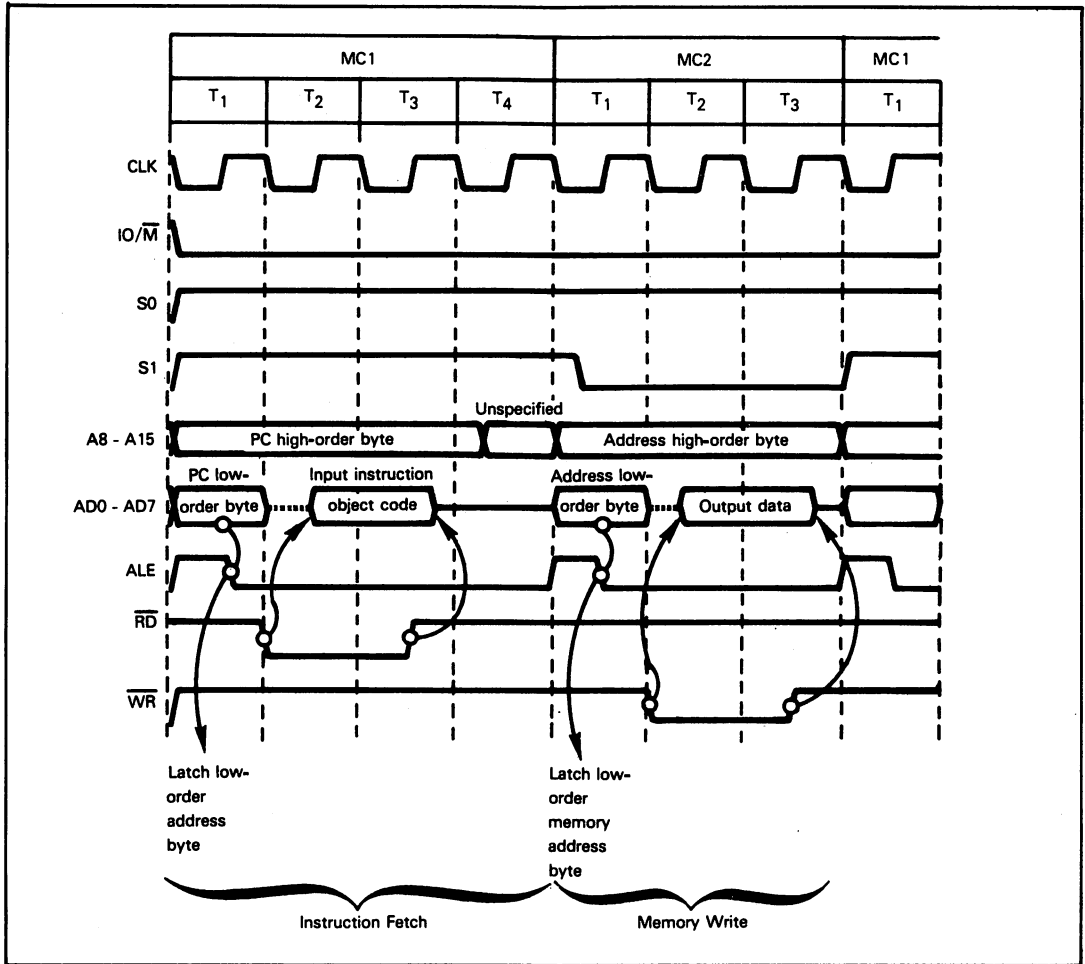
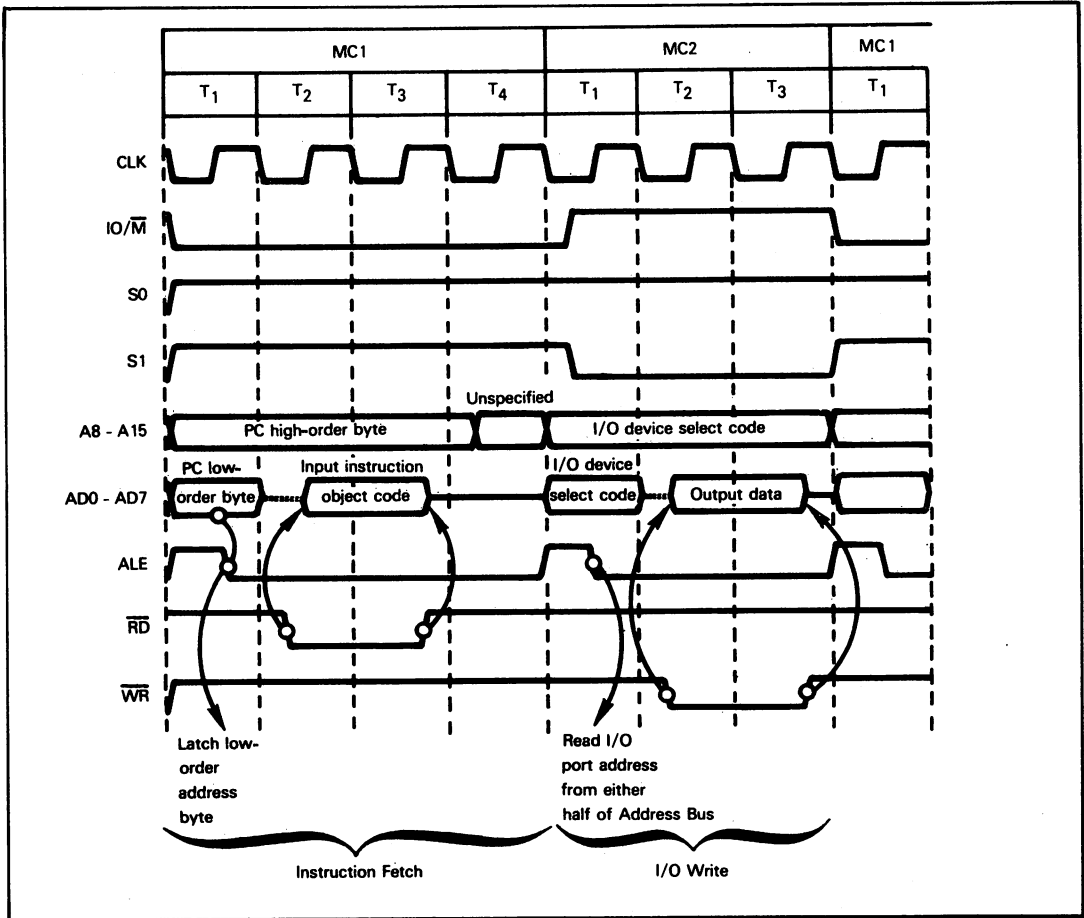

Figure 5-8. A Memory Write Machine Cycle Following an Instruction Fetch
Figure 5-9. An I/O Write Machine Cycle Following an Instruction Fetch
**Memory write timing, illustrated in Figure 5-8, is very similar to memory read timing.** The principal difference is that during a memory write  $\overline{WR}$  is output low, whereas during a memory read  $\overline{RD}$  is output low. Also, during a memory write operation  $S_1$  is output low while  $S_0$  is output high.
An I/O write operation is illustrated in Figure 5-9. As compared to Figure 5-8,  $IO/\overline{M}$  is high in Figure 5-9 during the write machine cycle; there are no other timing differences.